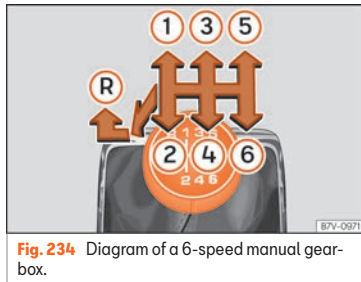

**Fig. 234** Diagram of a 6-speed manual gearbox.
Gear positions are indicated on the gear lever » **Fig. 234**.
- With the gear lever in neutral, push it down, move it all the way to the left and then forwards to select reverse gear » **Fig. 234** .